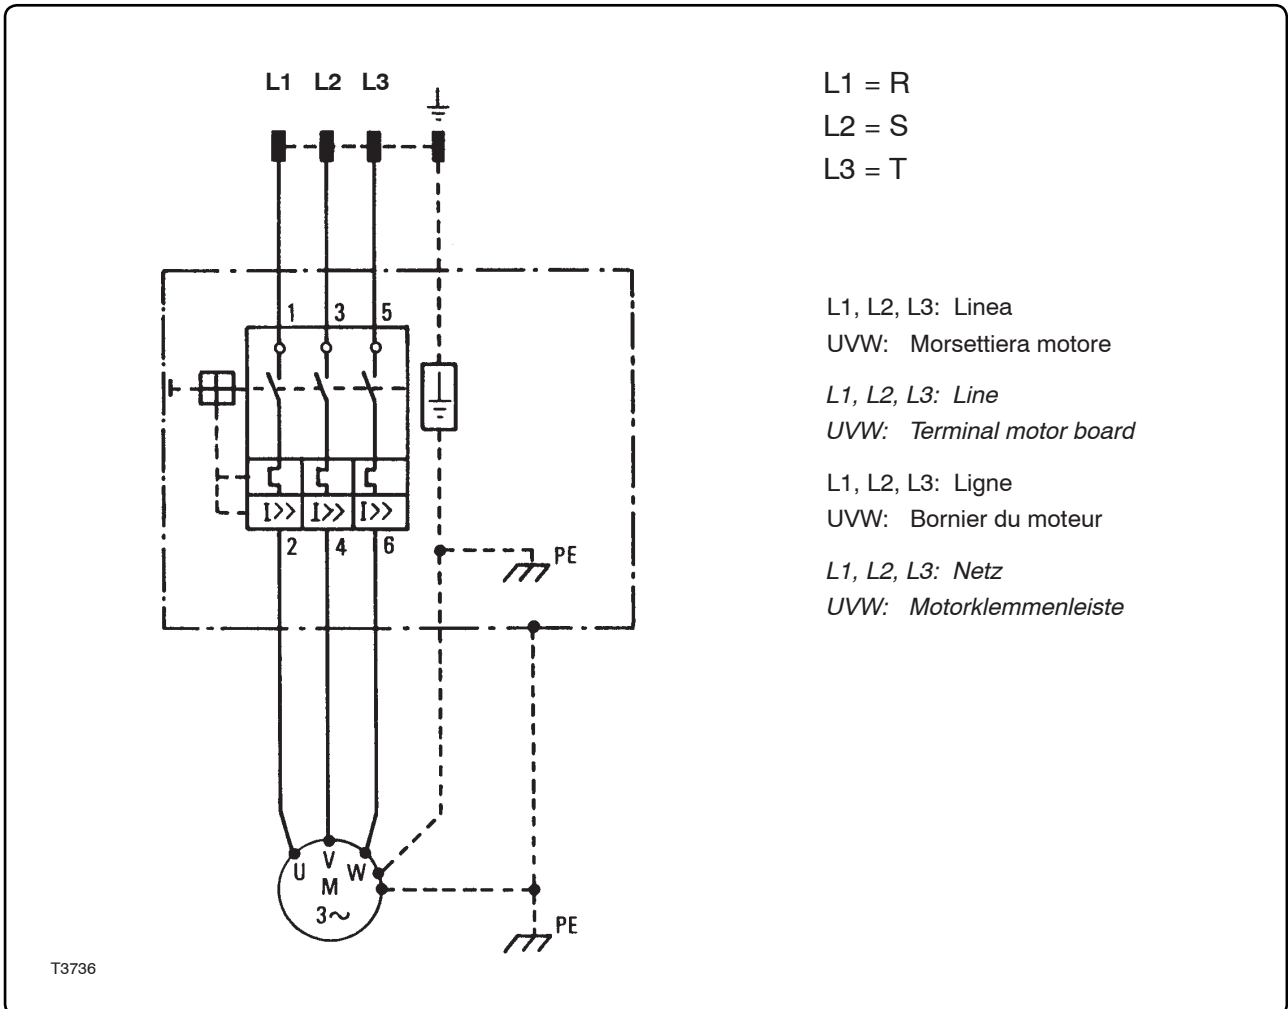

Fig. 7.7.1
7.7.1 - Schema elettrico mac-china standard cat. "U", "S", "G" (fig. 7.7.1)
7.7.1 - Wiring diagram of the standard machine cat. "U", "S", "G" (fig. 7.7.1)
7.7.1 - Schéma électrique machine standard cat. "U", "S", "G" (fig. 7.7.1)
7.7.1 - Stromlaufplan der Standardmaschine Kategorie "U", "S", "G" (Abb. 7.7.1)